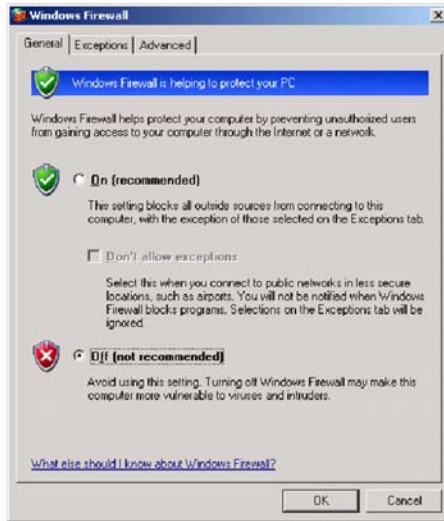

Figure 4 Settings button
5. Select the Off (not recommended) radio button to disable the windows firewall, Figure 4.